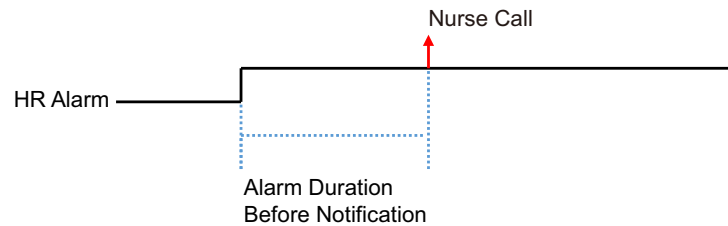

Figure 1: Normal Operation of the Nurse Call
- When the alarm condition continues for the preset "Alarm Duration Before Notification", the alarm will be notified to nurse call (Figure 1).